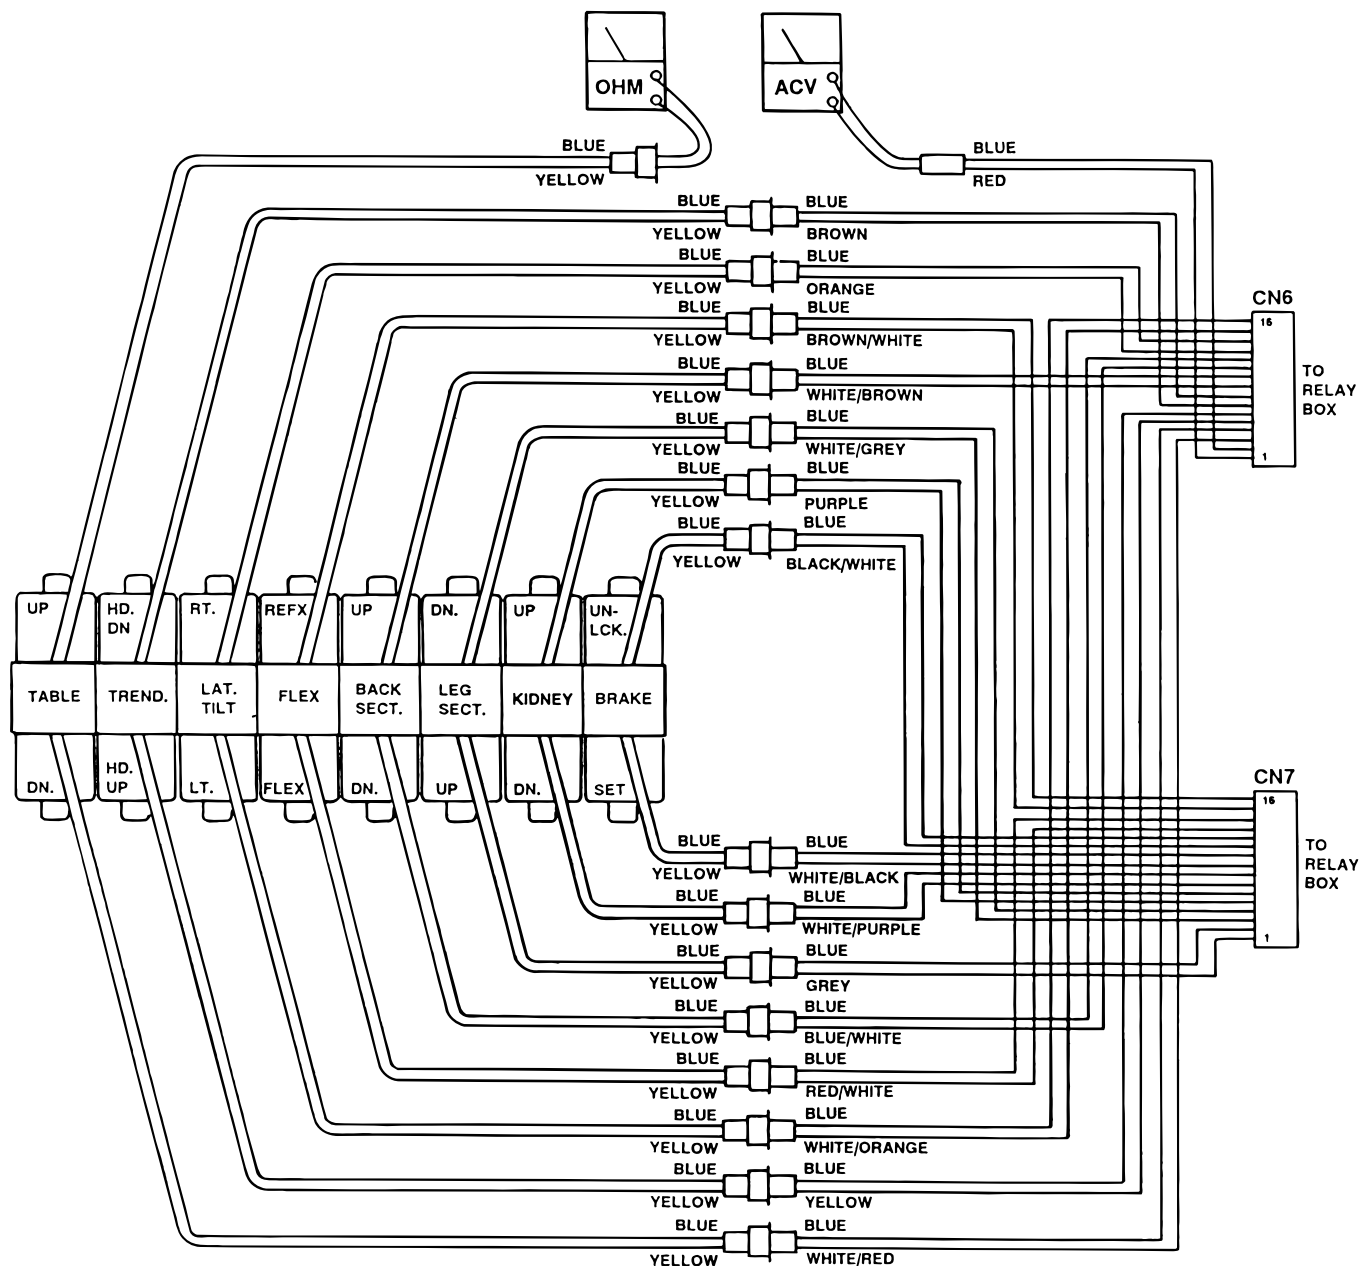

Figure 5-8. Solenoid Test
2. Disconnect the 2 pin connector from the solenoid in question. See figure 5-8.
1. Measure the resistance between the two pins of the connector in question. See figure 5-8.